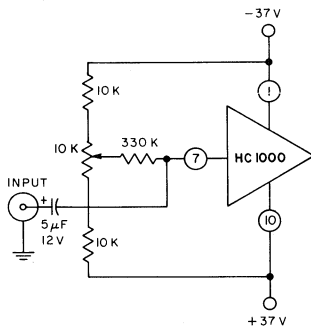

Fig. 7 — Balancing network for use in the circuit of Fig. 6.
4. Balance out the offset voltage by use of the balancing network shown in Fig. 7. The typical temperature coefficient of offset voltage is 0.4 millivolt per °C up to case temperatures of 100° C.